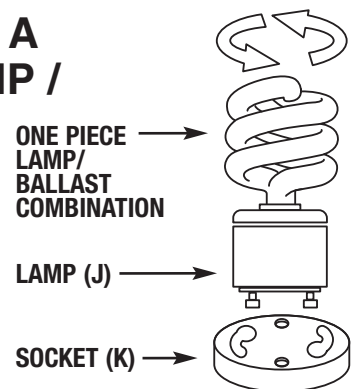

FIGURE 2
GROUNDING INSTRUCTIONS: The green grounding screw (G) is to be inserted into the hole with two raised dimples provided on the backplate (A). Wrap the ground wire from the fixture and the ground wire from the outlet box (bare metal or green insulated wire) around the green grounding screw (G) on the backplate (A) and tighten the green grounding screw (G) to secure. If uninsulated ground wire is on the backplate (A), connect the ground wire from the fixture and the outlet box to it using a small wire connector (not supplied) (See Figure 2). **NEVER CONNECT GROUND WIRE TO BLACK OR WHITE POWER SUPPLY WIRES.**